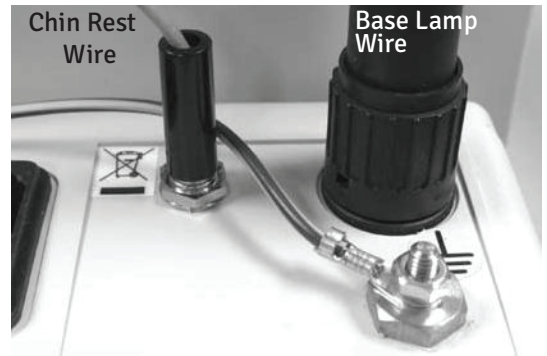

Figure-5 Connections
8. Attach the Fixation Light Wire from the Chin Rest Assembly into the connector on the back of the Power Supply Assembly. Refer to Figure-5.
11. Attach the Base Lamp Wire to the back of the Power Supply Assembly. Refer to Figure-5.